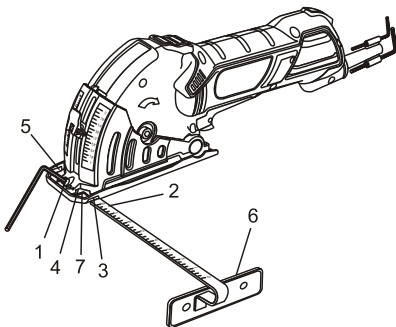

Fig. 4
1. Using the 3 mm hex key provided, turn the edge guide locking screw (1) counter clockwise a few turns until the screw rises about 1/8" (Fig. 4).
2. Insert the edge guide rod (2) into the left hand edge guide mounting slot (3), through the middle locking slot (4) and through the right hand mounting slot (5).